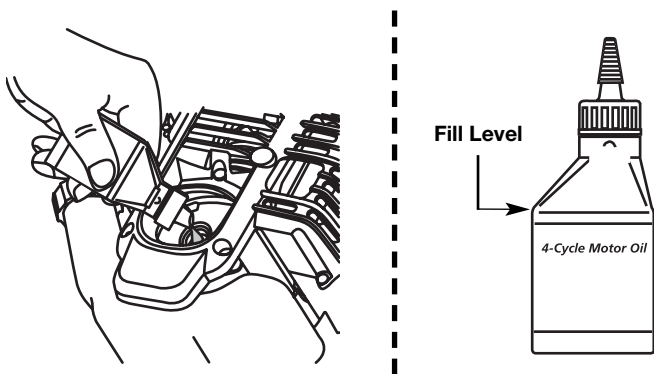

Fig. 43
**NOTE:** Use the bottle and spout saved from initial use to measure the correct amount of oil. The top of the label on the bottle measures approximately 3.04 ounces (90 ml) (Fig. 43). Check the level, See *Checking the Oil Level*. If the level is low, add a small amount of oil and recheck. Do not overfill (Fig. 43).